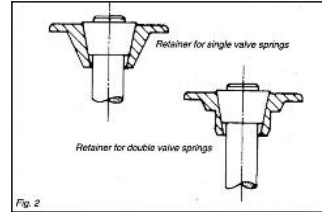

Fig. 2
7. When Double springs are being installed in place of singles, the valve spring retainer cap must be machined to accept the inner spring (See Fig 2). Alternatively in most instances we are able to supply modified caps in steel or lightweight alloy.